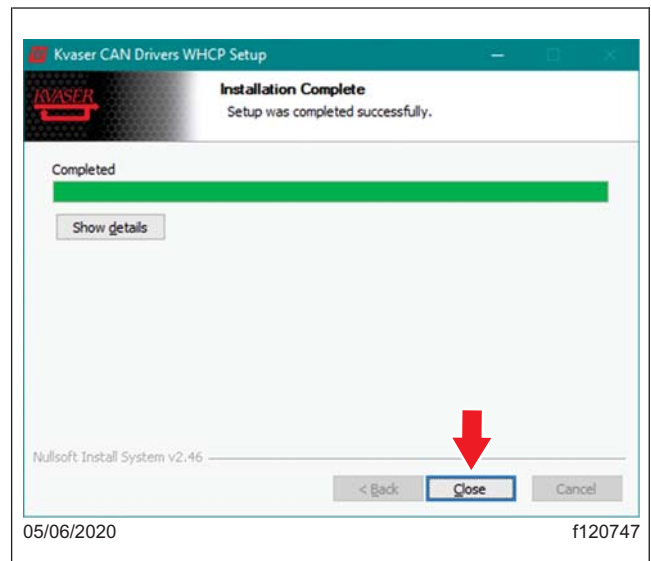

Fig. 14, Kvaser Installation Complete Window
- A window will appear when the installation is complete. Select 'Close.' See Fig. 14.